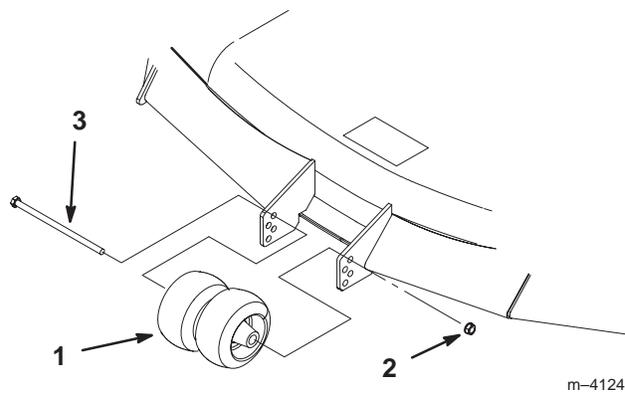

Figure 18
- After adjusting the height-of-cut, remove the bolt and nut (Fig. 18).
- Select a hole so that the gage wheel is positioned to the nearest corresponding height-of-cut desired (Fig. 18).
- Reinstall the bolt, center rollers, and nut (Fig. 18).